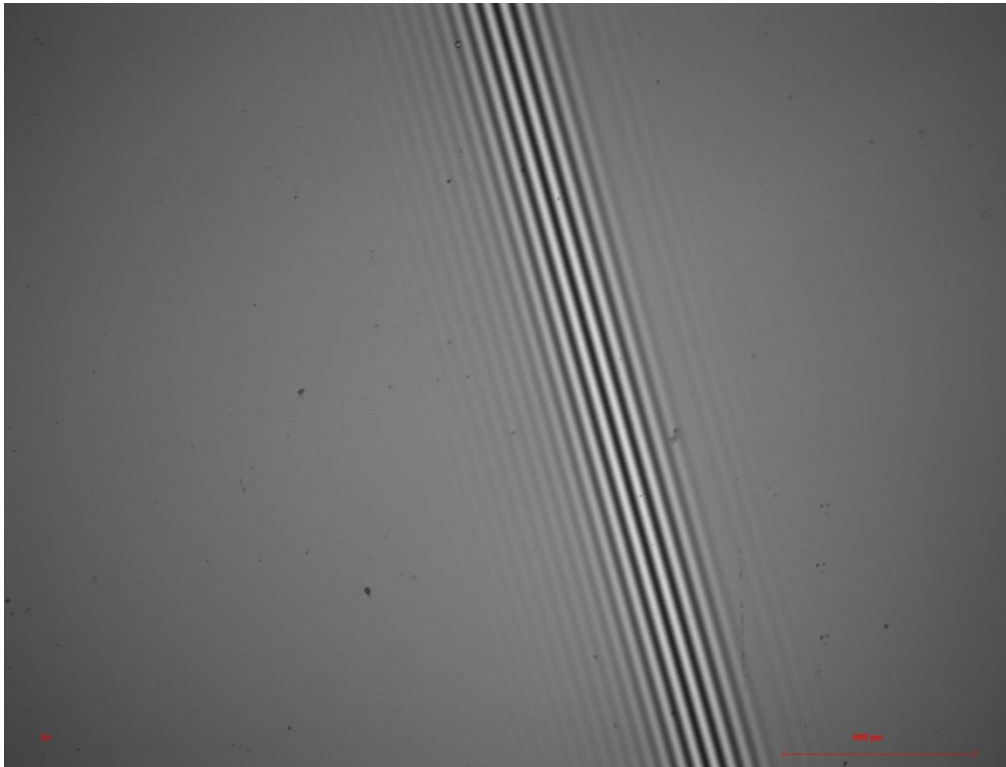

FIGURE 21: MEASUREMENT SYSTEM IS NOT LEVELED, THUS OBTAINED INTERFERENCE FRINGES ARE TOO THIN AND APPEAR ONLY IN A SMALL REGION OF THE LIVE VIEW IMAGE
3. If interference fringes have been found but these are too thin for useful measurements, in this case the fringes fill only a small fraction of the live view image as shown in Figure 21, then a leveling procedure is required